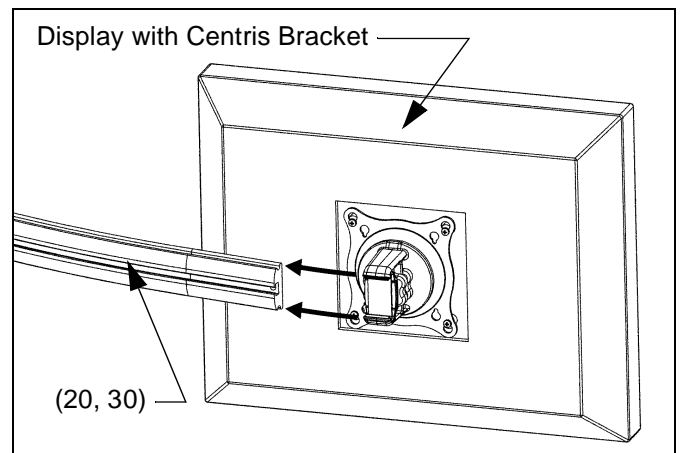

Figure 12: Mount Display with Centris Bracket to Array Rail
7. Slide display with Centris bracket onto array rail (20, 30) (see Figure 12).